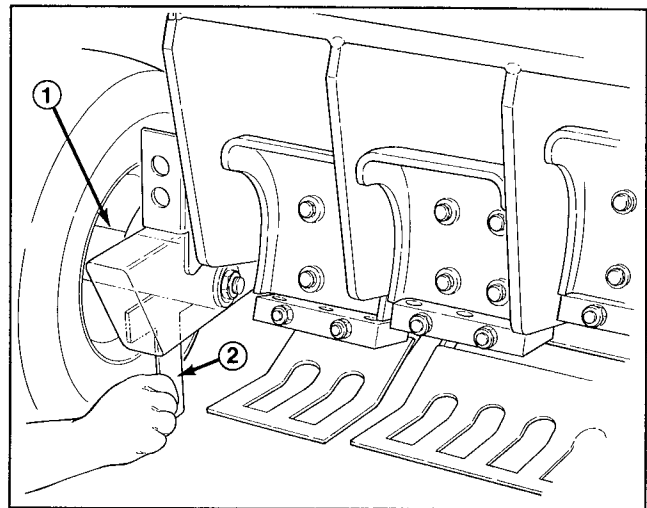

Figure 21
4. Repeat procedure using long end of height gauge on each rear wheel spindle (Fig. 21).